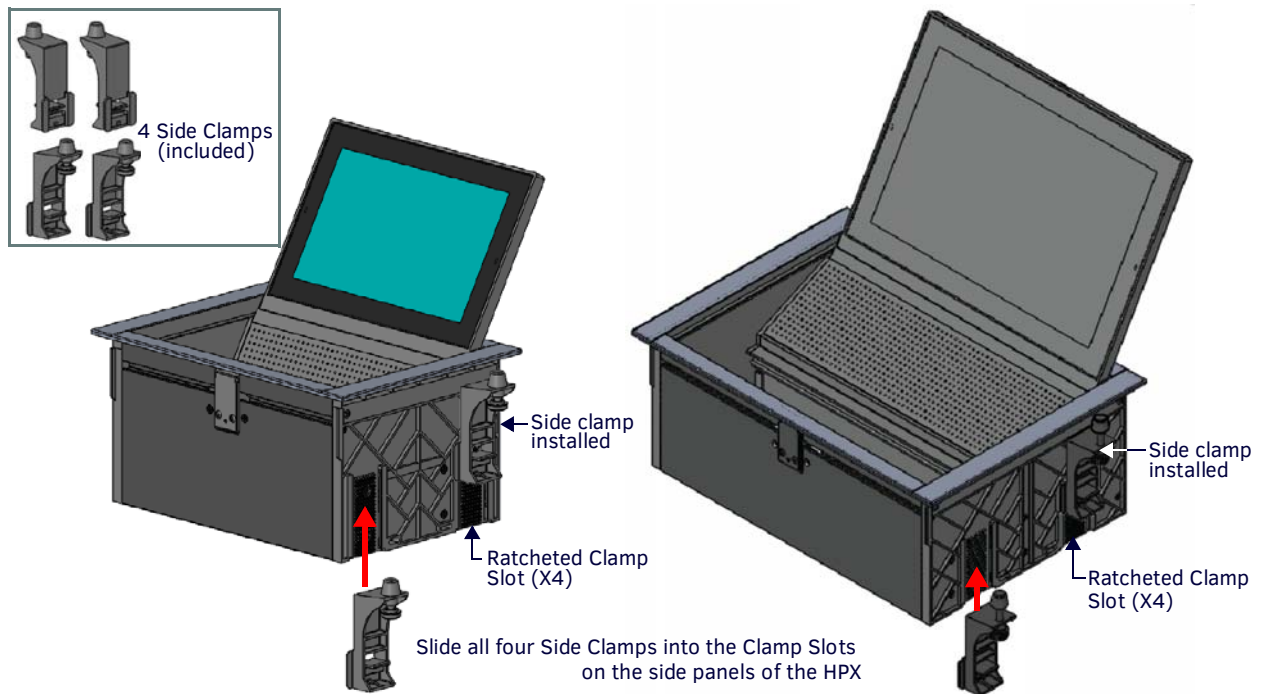

FIG. 10 HPX Touch Assembly and Side Clamps
3. Use all four included Side Clamps to secure the HPX-MSP-7/10 to the mounting surface (FIG. 10):
- b. Press down on the Release Tab on the Side Clamp (see FIG. 10), and slide the clamp into the ratcheted Clamp Slot until it contacts the underside of the mounting surface.